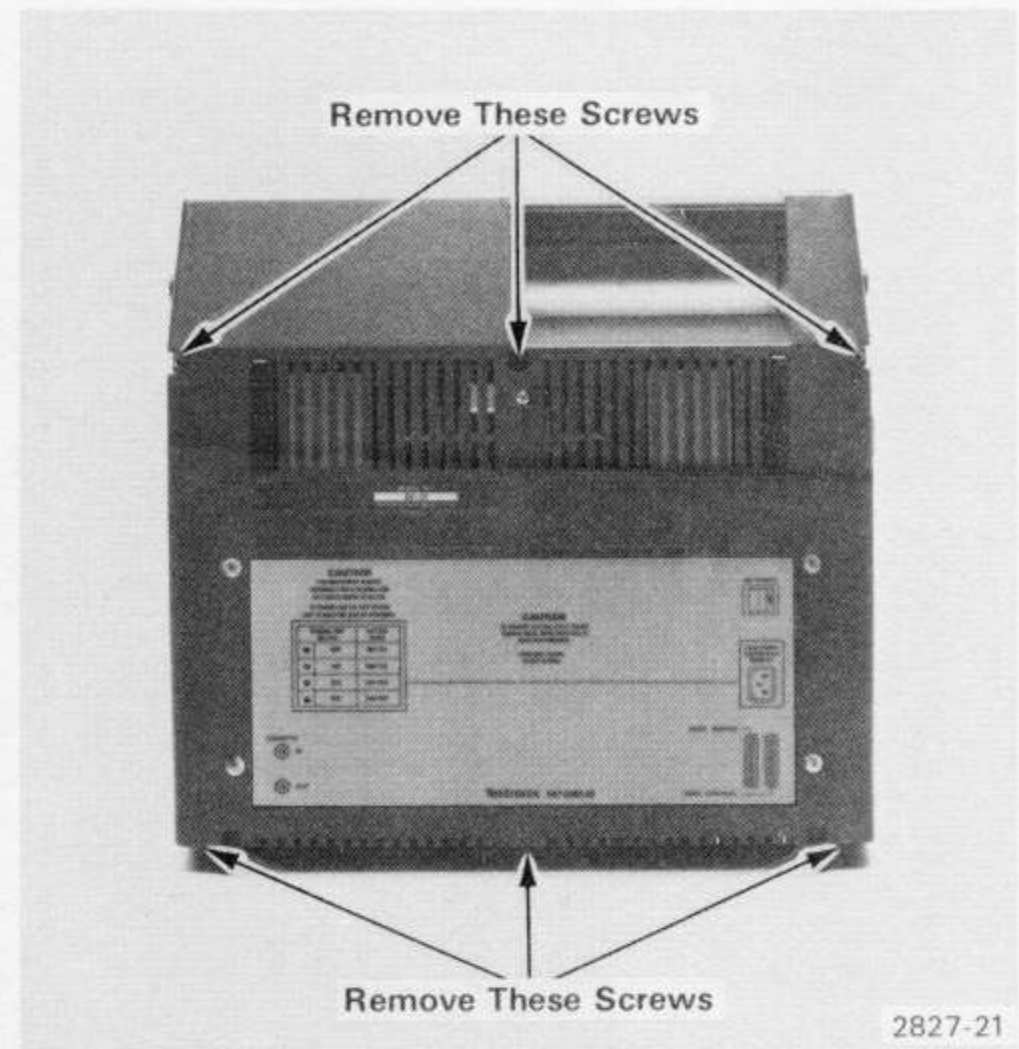

Fig. 6-1. Looking At The Bottom Of The MicroLab I.
1. Close the clear plastic cover and turn the MicroLab I over on its top, as shown in Fig. 6-1.
2. Remove the six screws shown in Fig. 6-1 with a long-tipped Phillips screwdriver.